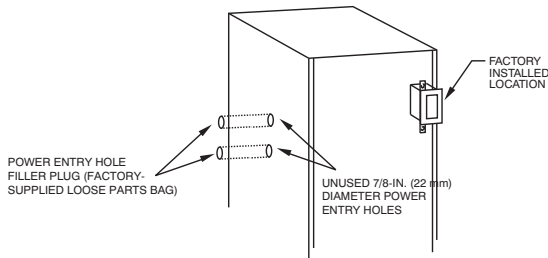

Fig. 31 – Factory Installed J-Box Location
Install power entry hole filler plugs (factory-supplied in loose parts bag) in unused power entry holes. (See Fig. 31.)
3. Install power entry hole filler plugs (factory-supplied loose parts bag) in unused power entry holes. (See Fig. 31.)